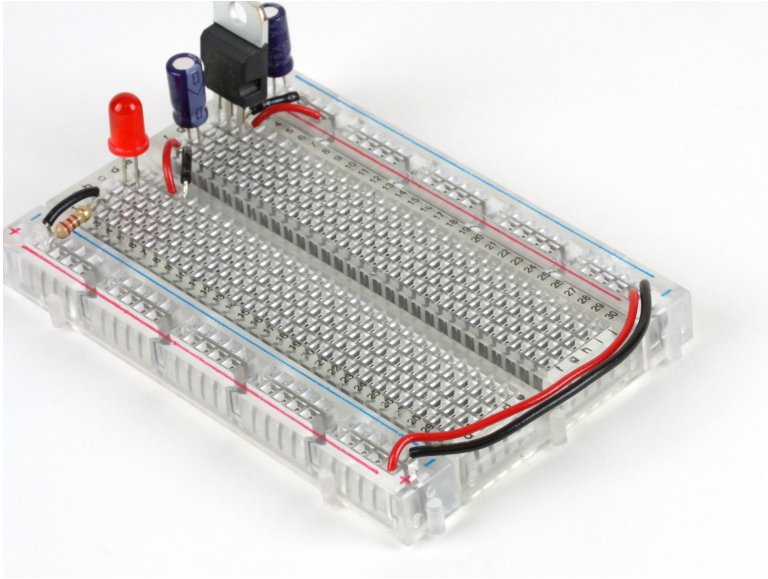

Figure 1-2. Breadboard ready to be powered up
5. Lastly, cut (1) piece of red and black wire about 11/2" long and connect the right side rails together. Remember to connect (+) to (+) and (-) to (-). Your breadboard should look just like Figure 1-2